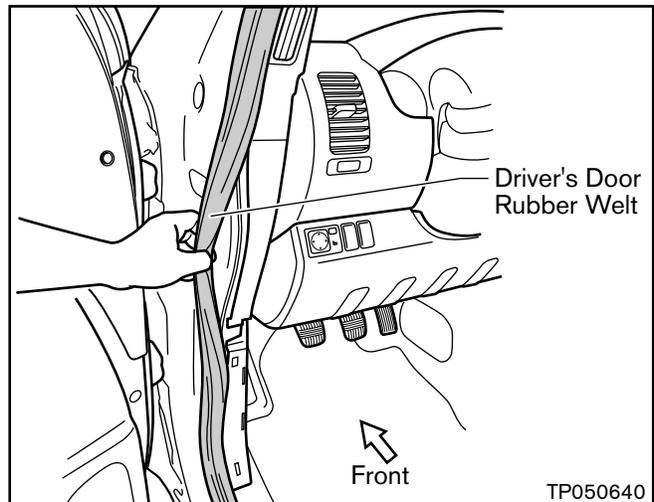

Figure 11
4. Carefully reposition the Driver’s Door Rubber Welt away from the Instrument Panel Side Trim (see Figure 11).